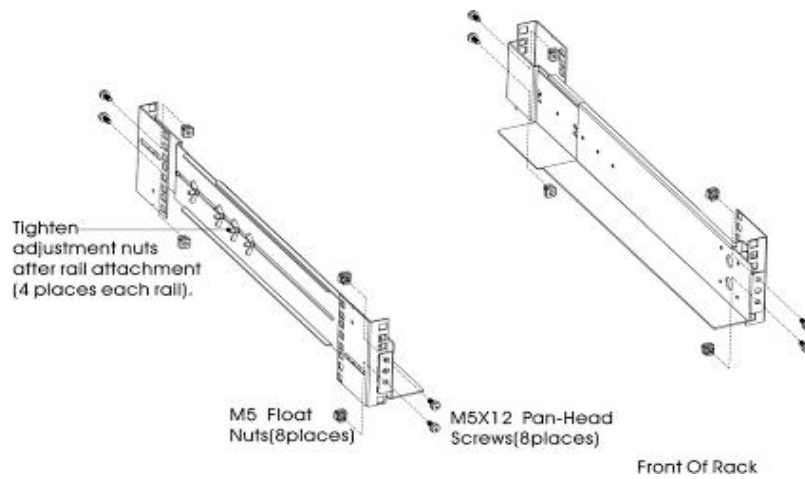

Figure 2: Fixing the rails
- Select the proper size in the rack for positioning the UPS (see Figure 2). The rail occupies four positions on the front and rear of the rack.